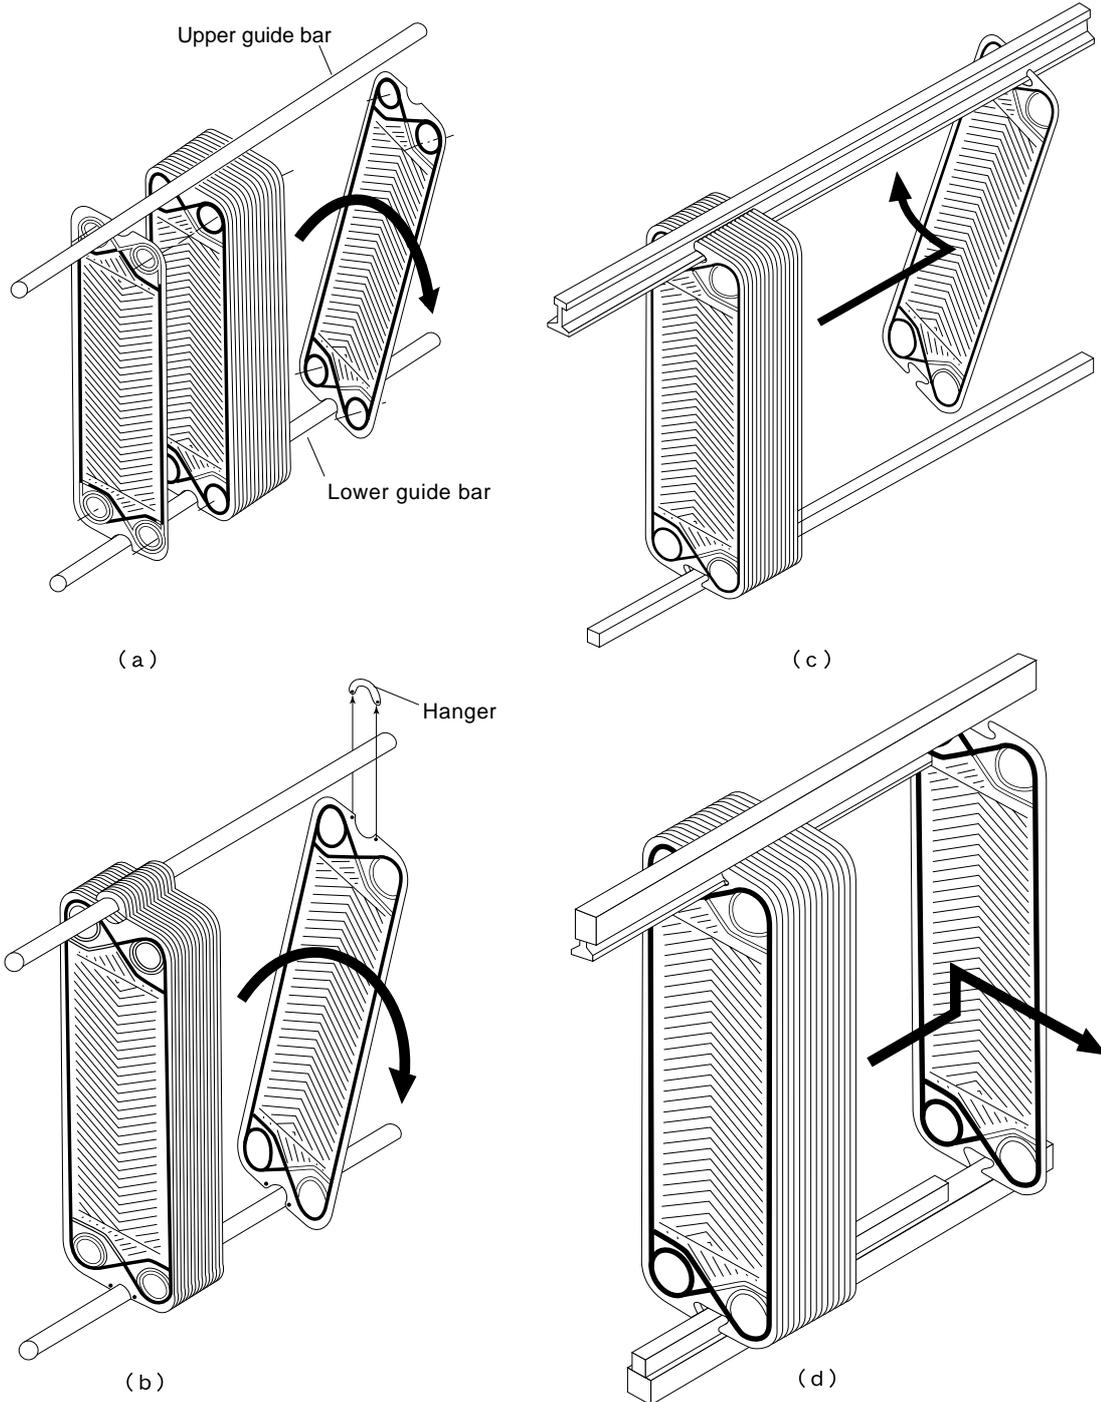

Fig.5.2 How to Remove the Plates
1. For the UX-01, UX-005 and RX-00 type without hanger, turn aside the plates, one by one, toward the E-frame and take them out horizontally. (Fig.5.2-(a))
2. For the heat exchanger type with a hanger and round upper guide bar, push down the hanger for removal while taking up the plate. Thereafter, remove the plate from the upper guide bar. (Fig.5.2-(b))
3. For the heat exchanger type with a hanger and with rail type upper guide bar, remove each plate from the lower guide bar (rail) and, thereafter, turn it outward. (Fig.5.2(c)-(d))